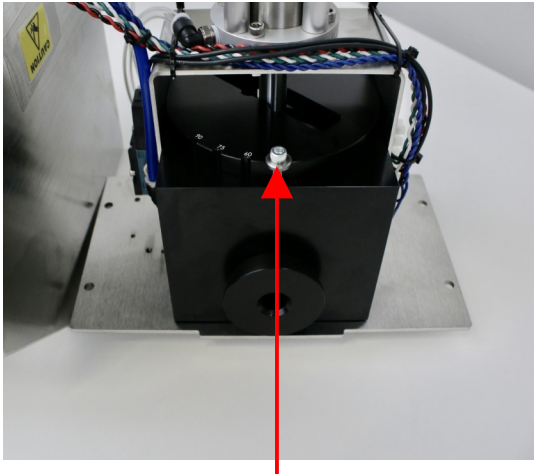

Figure 3.2.1 Loosen screw
- Loosen screw at the rear of the knife block above the bushing hole. **Figure 3.2.1**